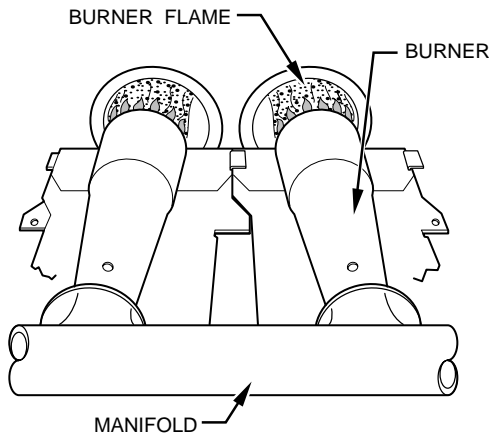

Fig. 52—Burner Flame
- Replace burner enclosure front and verify adjusted gas input rate using method outlined in item 3.
- Look through sight glass in burner enclosure and check burner flame. Burner flame should be clear blue, almost transparent. (See Fig. 52.)